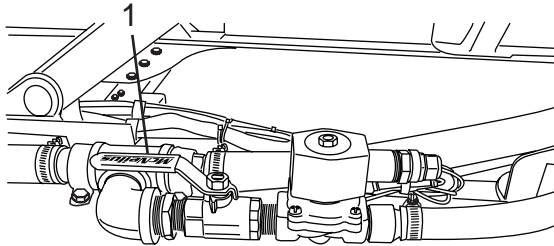

Figure 62
1. Open the water injection ball valve (Figure 62, Item 1).
6. Close the water injection ball valve (Figure 62, Item 1).